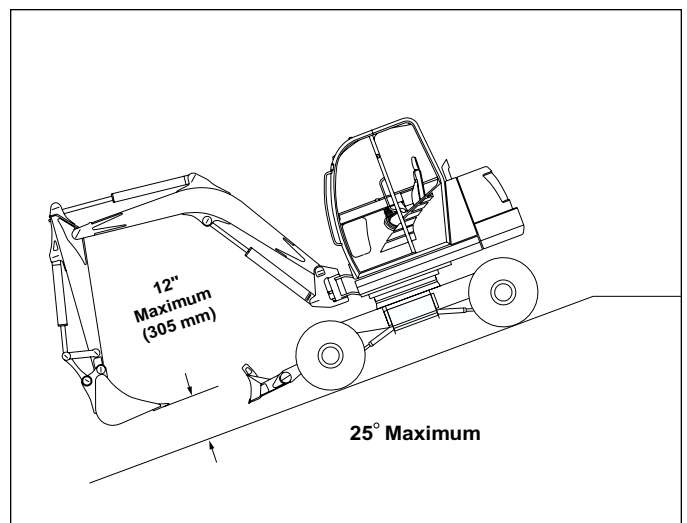

Figure 3-16. Travelling on a Slope Exceeding 15°
- When going down grades that exceed 15°, put the machine in the position shown in Figure 3-16. Run the engine at medium to full throttle to ensure proper steering..